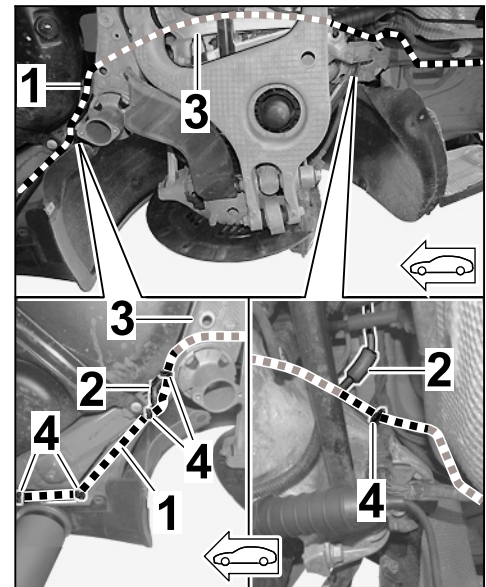

Figure 24
3.3.4 Route line 0.52; BK/YE along pneumatic line (color: green) over the rear axle housing (chassis subframe) to the vehicle underbody, area: right door sill (⇒ *Figure 24*).